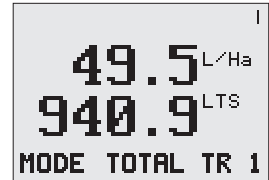

Figure 20: Example Rate display on main screen
- Rates can be displayed as shown in Figure 20, using both Metric and Imperial units in the following formats: volume/area (L/Ha, Gal/Ac); weight/area (kg/Ha, lbs/Ac); volume/time (L/min, Gal/min); weight/time (kg/min, lbs/min).
4. After allowing the A/D value to stabilize at the high pressure, **P2**, had a A/D value of 653. The User held the **SET** softkey until the **A/D HI** Value on the far right of the screen updated, as shown in Figure 20.
6. The **AMOUNT** (250) was entered using the **NAV** keys.